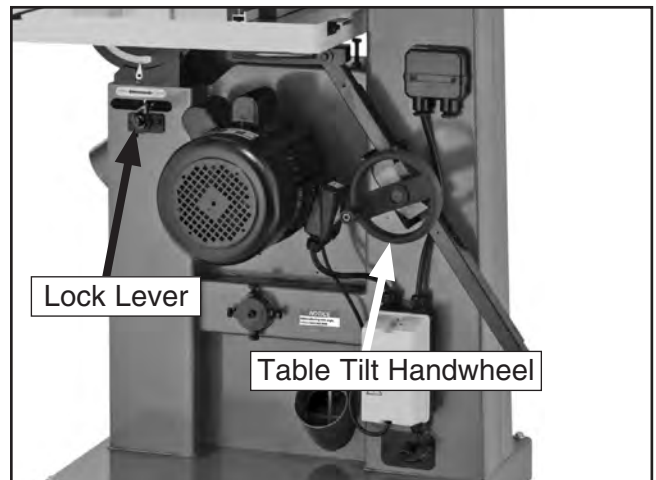

Figure 38. Table tilt controls.
2. Loosen table tilt lock lever shown in **Figure 38**.
3. To tilt table to the right, turn table tilt handwheel clockwise (see **Figure 38**).